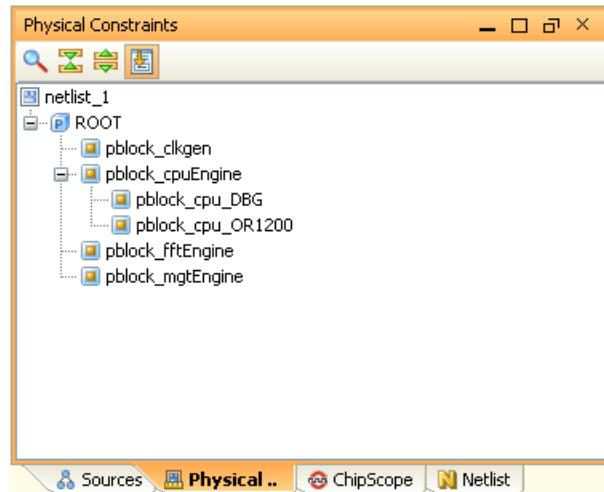

Figure 7-5: Physical Constraints View with ROOT Selected
1. Select either the ROOT Pblock or any Pblock in the Physical Constraints view. Figure 7-5, page 226 shows a selected ROOT Pblock.